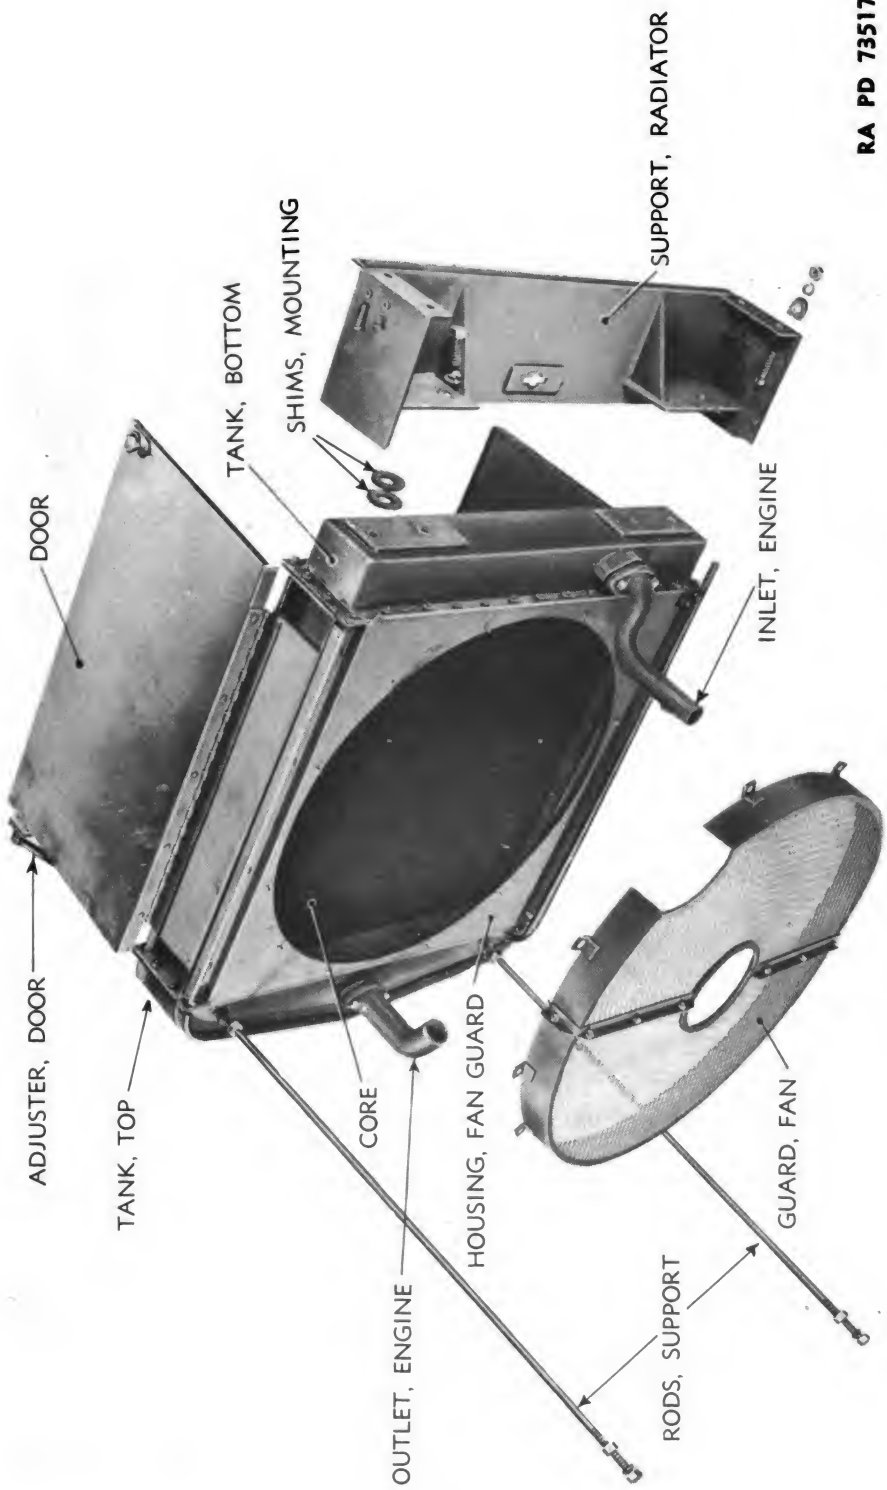

Figure 76 — Radiator and Supports Assembly
(1) Because of its construction, the water pump requires very little care, except that the grease cup must be kept filled with **GREASE**, water pump, and given a turn down every 8 hours to insure proper lubrication of water pump shaft bushing.
(2) In case of overhaul or repair, always use new gaskets. Replace other parts if worn or broken.
32. RADIATOR (fig. 76).